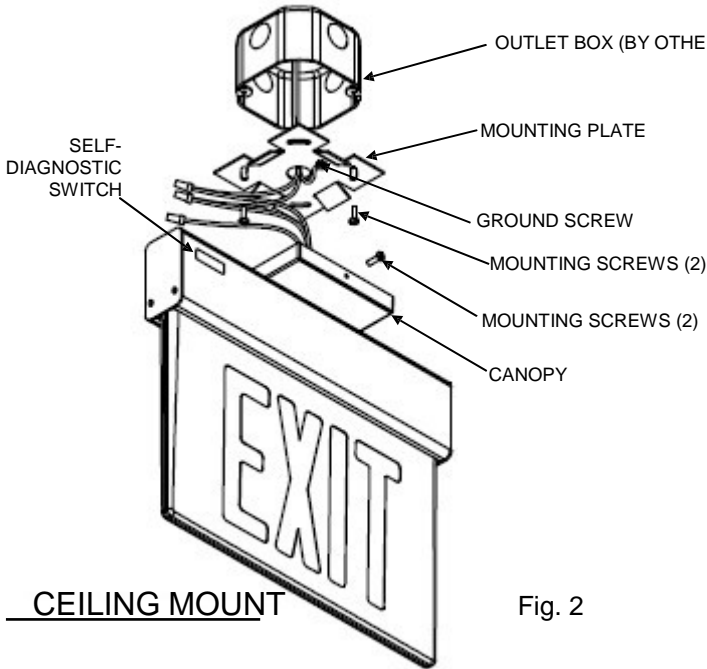

Fig. 2
- a. Install mounting plate to outlet box. See Fig. 2 or 3.
- e. Attach canopy to mounting plate with (2) screws provided.